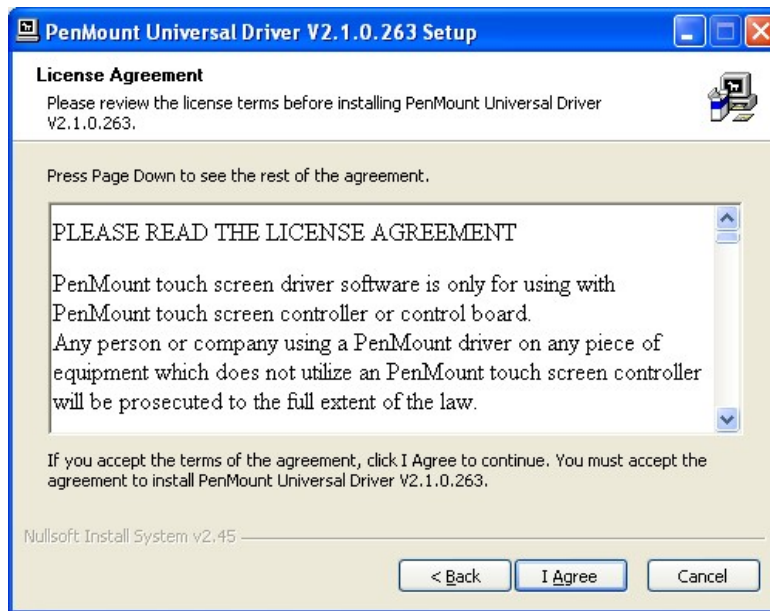

Figure 5-22: Touch Screen Driver License Agreement
Step 6: The **License Agreement** shown in **Figure 5-22** appears.